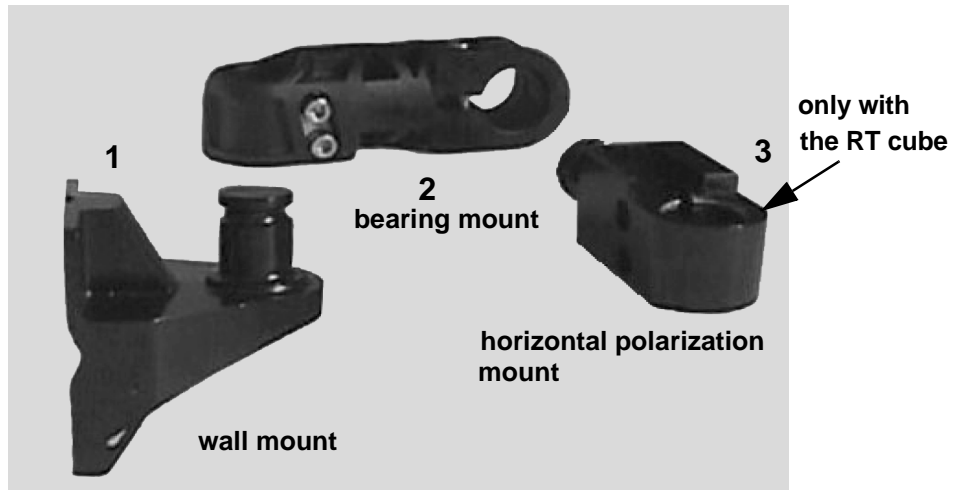

Figure 11 – Support arm components
The pole-mounting mechanical assembly consists of (*Figure 11 – Support arm components*):
3. Install and secure the bearing mounting on the wall mounting (V and H polarization), see *Figure 11 – Support arm components*.